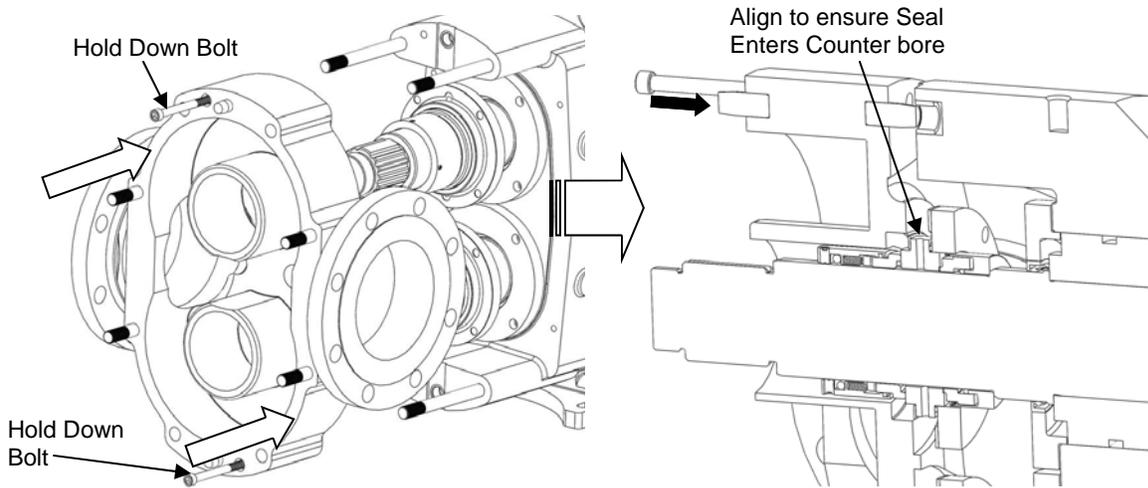

Figure 65: XP Installing Pump Body
1) Make sure all seal components are installed by following "Seal Maintenance" instructions provided on pages 18-20. Ensure all dowels are in place and that all parts including body, rotors, and jam nuts are clean and free of foreign matter. Slowly slide the body over the gear case studs and shafts, ensuring the stationary seals enter the counter bores on the body without damage (Figure 65). Install the two hold down bolts and tighten the body against the gear case to ensure the dowels are engaged.